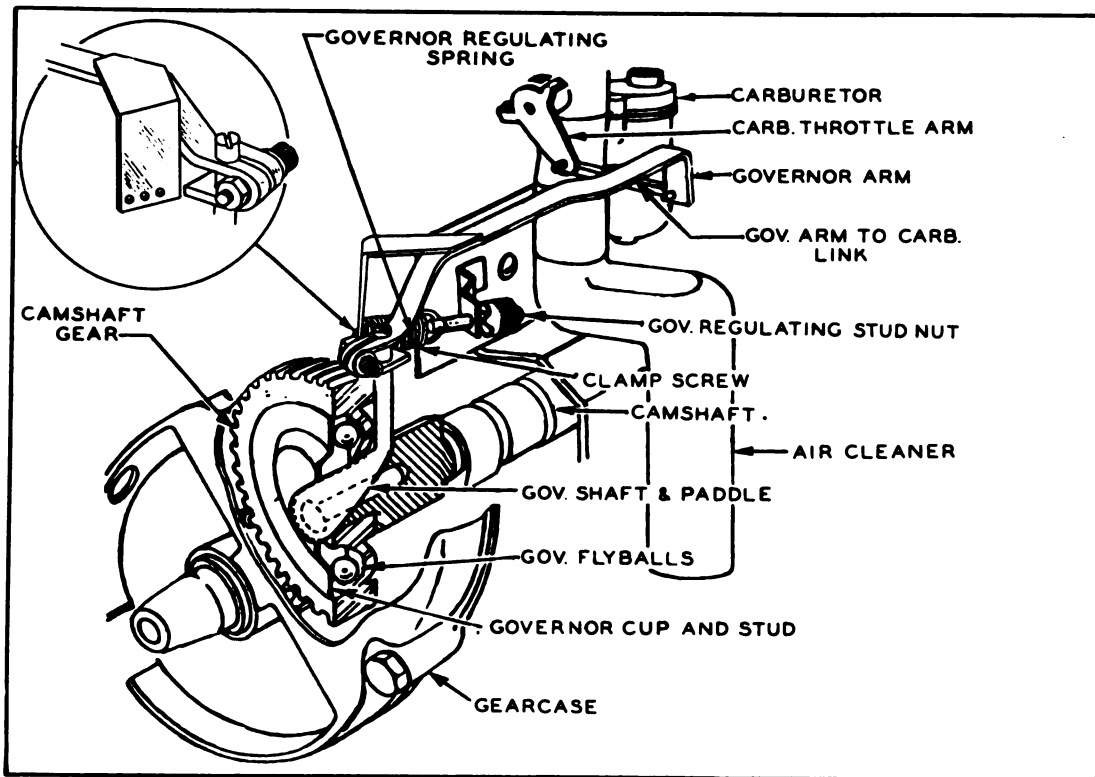

Figure 4-3. Governor Operation
a. PURPOSE.—The generator (see figs. 4-3 and 5-11) receives mechanical power from the engine and converts it to electrical power. The generator may be used as a cranking motor when the power unit installation includes a battery.